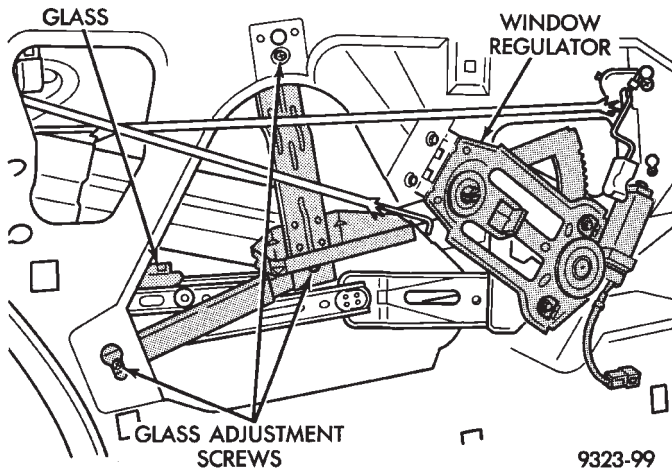

Fig. 82 Rear Door Glass Adjustment
- (1) Remove door trim panel.
- (2) Loosen screw holding scissor channel to door panel at rear of access hole (Fig. 82).
- (3) Loosen bolt holding support brace to door panel above access hole.
- (4) Loosen nut holding scissor channel to support brace.
- (5) Position glass in run weatherstrips to achieve smooth operation and proper fit.
- (6) Secure all fasteners and install trim panel.